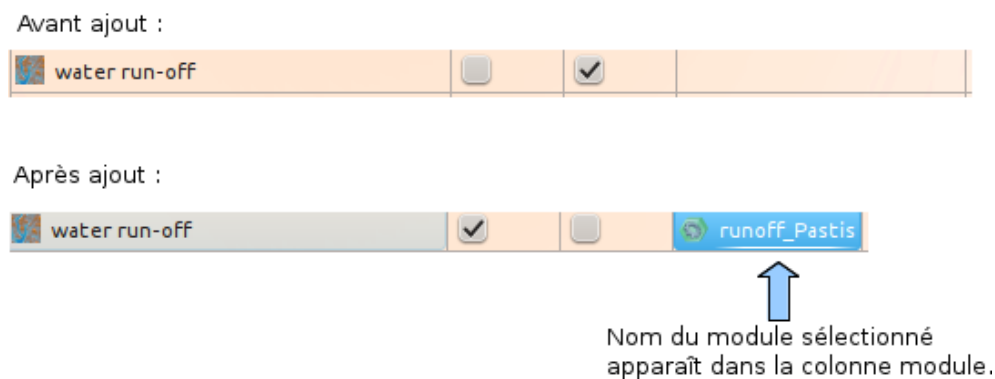
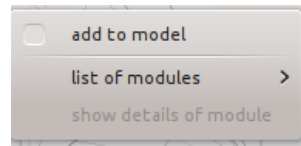
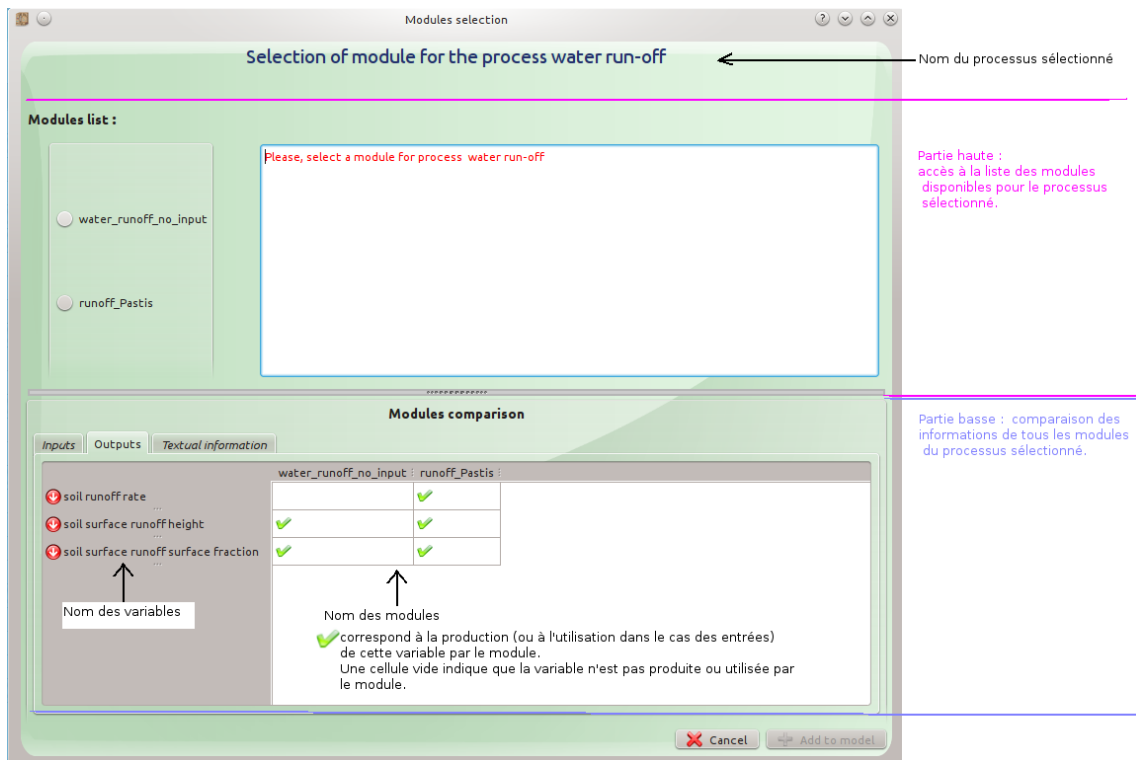

Figure 38: Changing the table in the “Processes and “External factors” tabs when adding a module to the model
Figure 39: Access menu for selecting a module
Figure 41: Window for selecting a module associated with the selected process
A window then appears (see figure 41 and explanation of how this window works in the section 4.1.3) allowing you to select the desired module to implement the process you have just selected. Select the module and click on the “Add to model” button to validate your choice. The process and its associated module are added to the model. You then automatically return to the “Processes” or “External factors” tab and can see that the name of the selected module appears in the column #5 of the table (see figure 38).
2. Position the mouse cursor on the desired process and right click. A pop-up menu appears (see figure 39).
1. The first way is to first add the process to the model under construction by checking the “Add to model” box of the contextual menu (see figure 39). A window then appears allowing you to select the desired module for this process (see figure 41 and explanation of the operation of this window in the section 4.1.3). Select the desired module and validate your choice by clicking on the “Add to model” button. You will then return to the graphical representation of the model. The graphic symbolisation of the process has been modified: a rectangle with green background appears containing the names of the selected process and corresponding module.
The selection of a module for a given process can be made from the window of the figure 41 accessible from:
To help you select a module, a comparison of the inputs, outputs, description, keywords and parameters of each of the modules implementing the selected process is available in the lower part of the window entitled “Modules comparison”. This information is grouped in three tabs: “Inputs”, “Outputs” and “Textual information”, the last one gathering description, keywords and parameters (see figure 41). The structure of the information stored in the “Inputs” and “Outputs” tabs is identical. It is presented in the form of a table in which:
The window for choosing a module then appears (see figure 41 and explanation of how this window works in the section 4.1.3), initialised with the currently selected module. Select